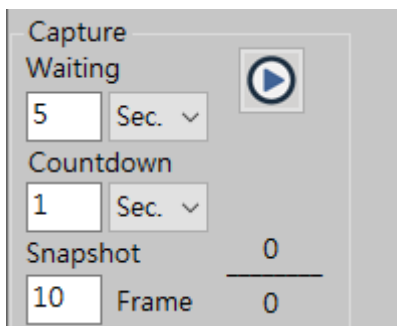
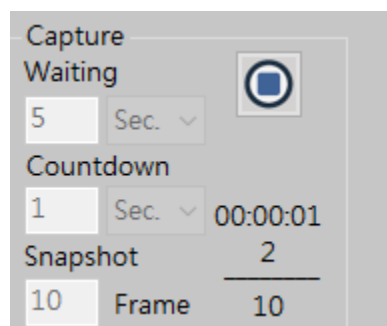

Fig 5-46 Time Lapse - Image
Fig5-47 Time Lapse – Image Capturing
(1) Capture: Setup Start time, Time Interval, and Files number to active Time lapse function, see Fig 5-46. The actual action refer to Fig 5-47.